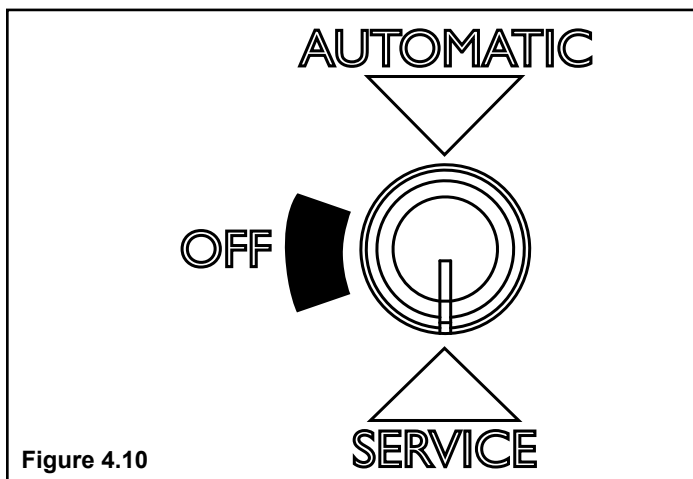

Figure 4.10
5. **Turn Mode Selector to “SERVICE”** Figure 4.10.